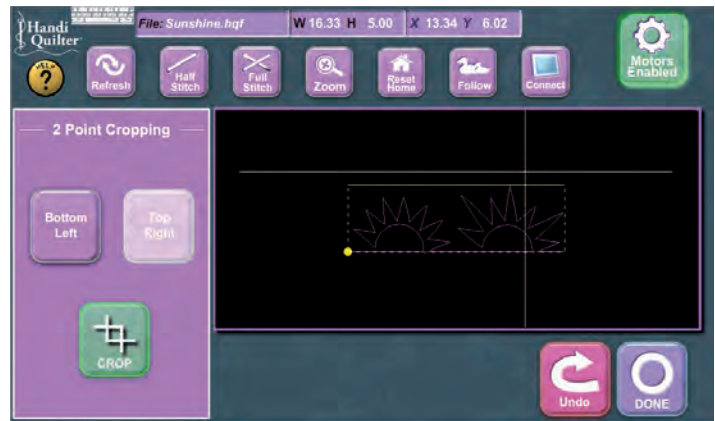

Figure 20
- Press the “Top Right Button” (Figure 20 on next page).